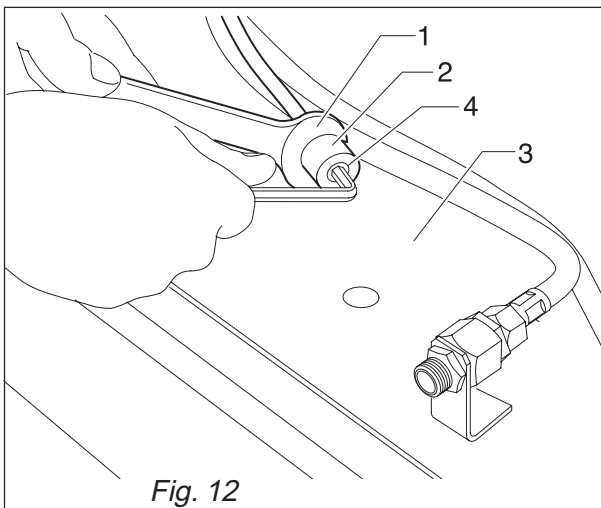

Fig. 12
- Check and clean the drainage sump of Fig. 12 - 3, removing any sludge with a spoon.
- Using a wrench (Fig. 12 - 1), firmly hold the outlet pipe (Fig. 12 - 2) situated near the drainage sump while loosening the hexagonal sealing screw (Fig. 12 - 4) by three turns at the most.